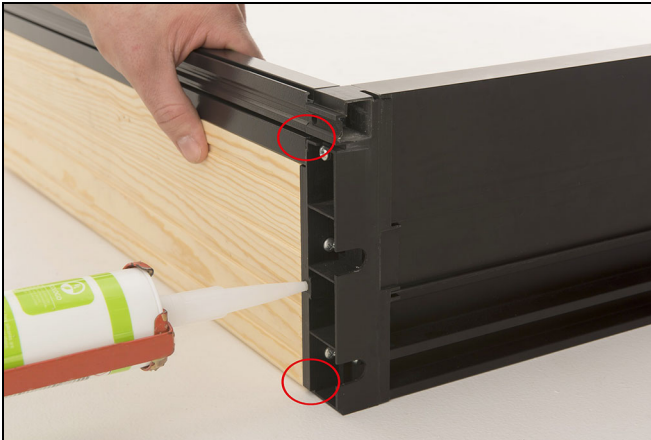
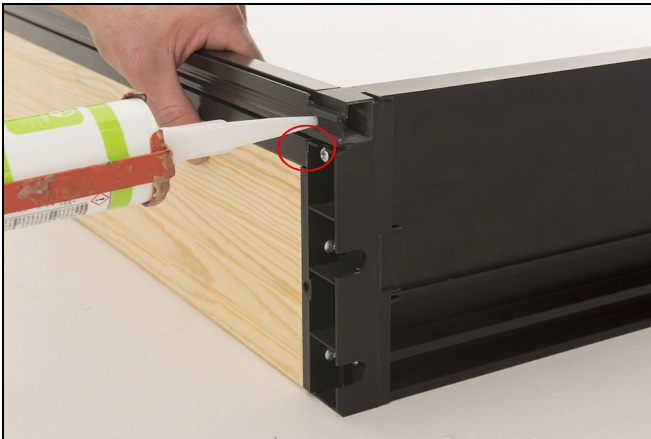

Figure 12
Figure 13
8. For low profile sill, inject the sill corner keys until squeeze out occurs in both directions. See Figure 12 and Figure 13.